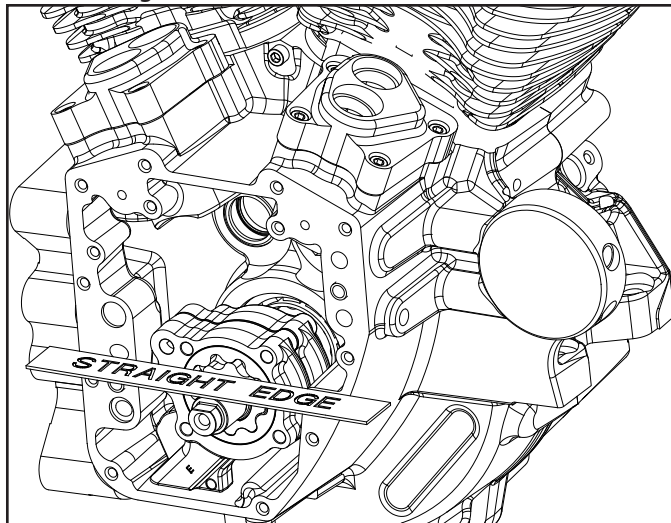

Figure 2
18. Place straight edge across front of cam chest and make sure the face of the pump does not protrude past the cam chest gasket surface. **Figure 2**